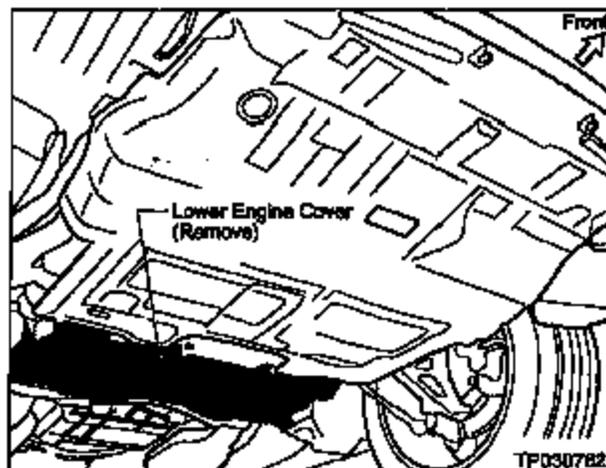

Figure 16
2. Remove the Lower Engine Cover (see Figure 16).